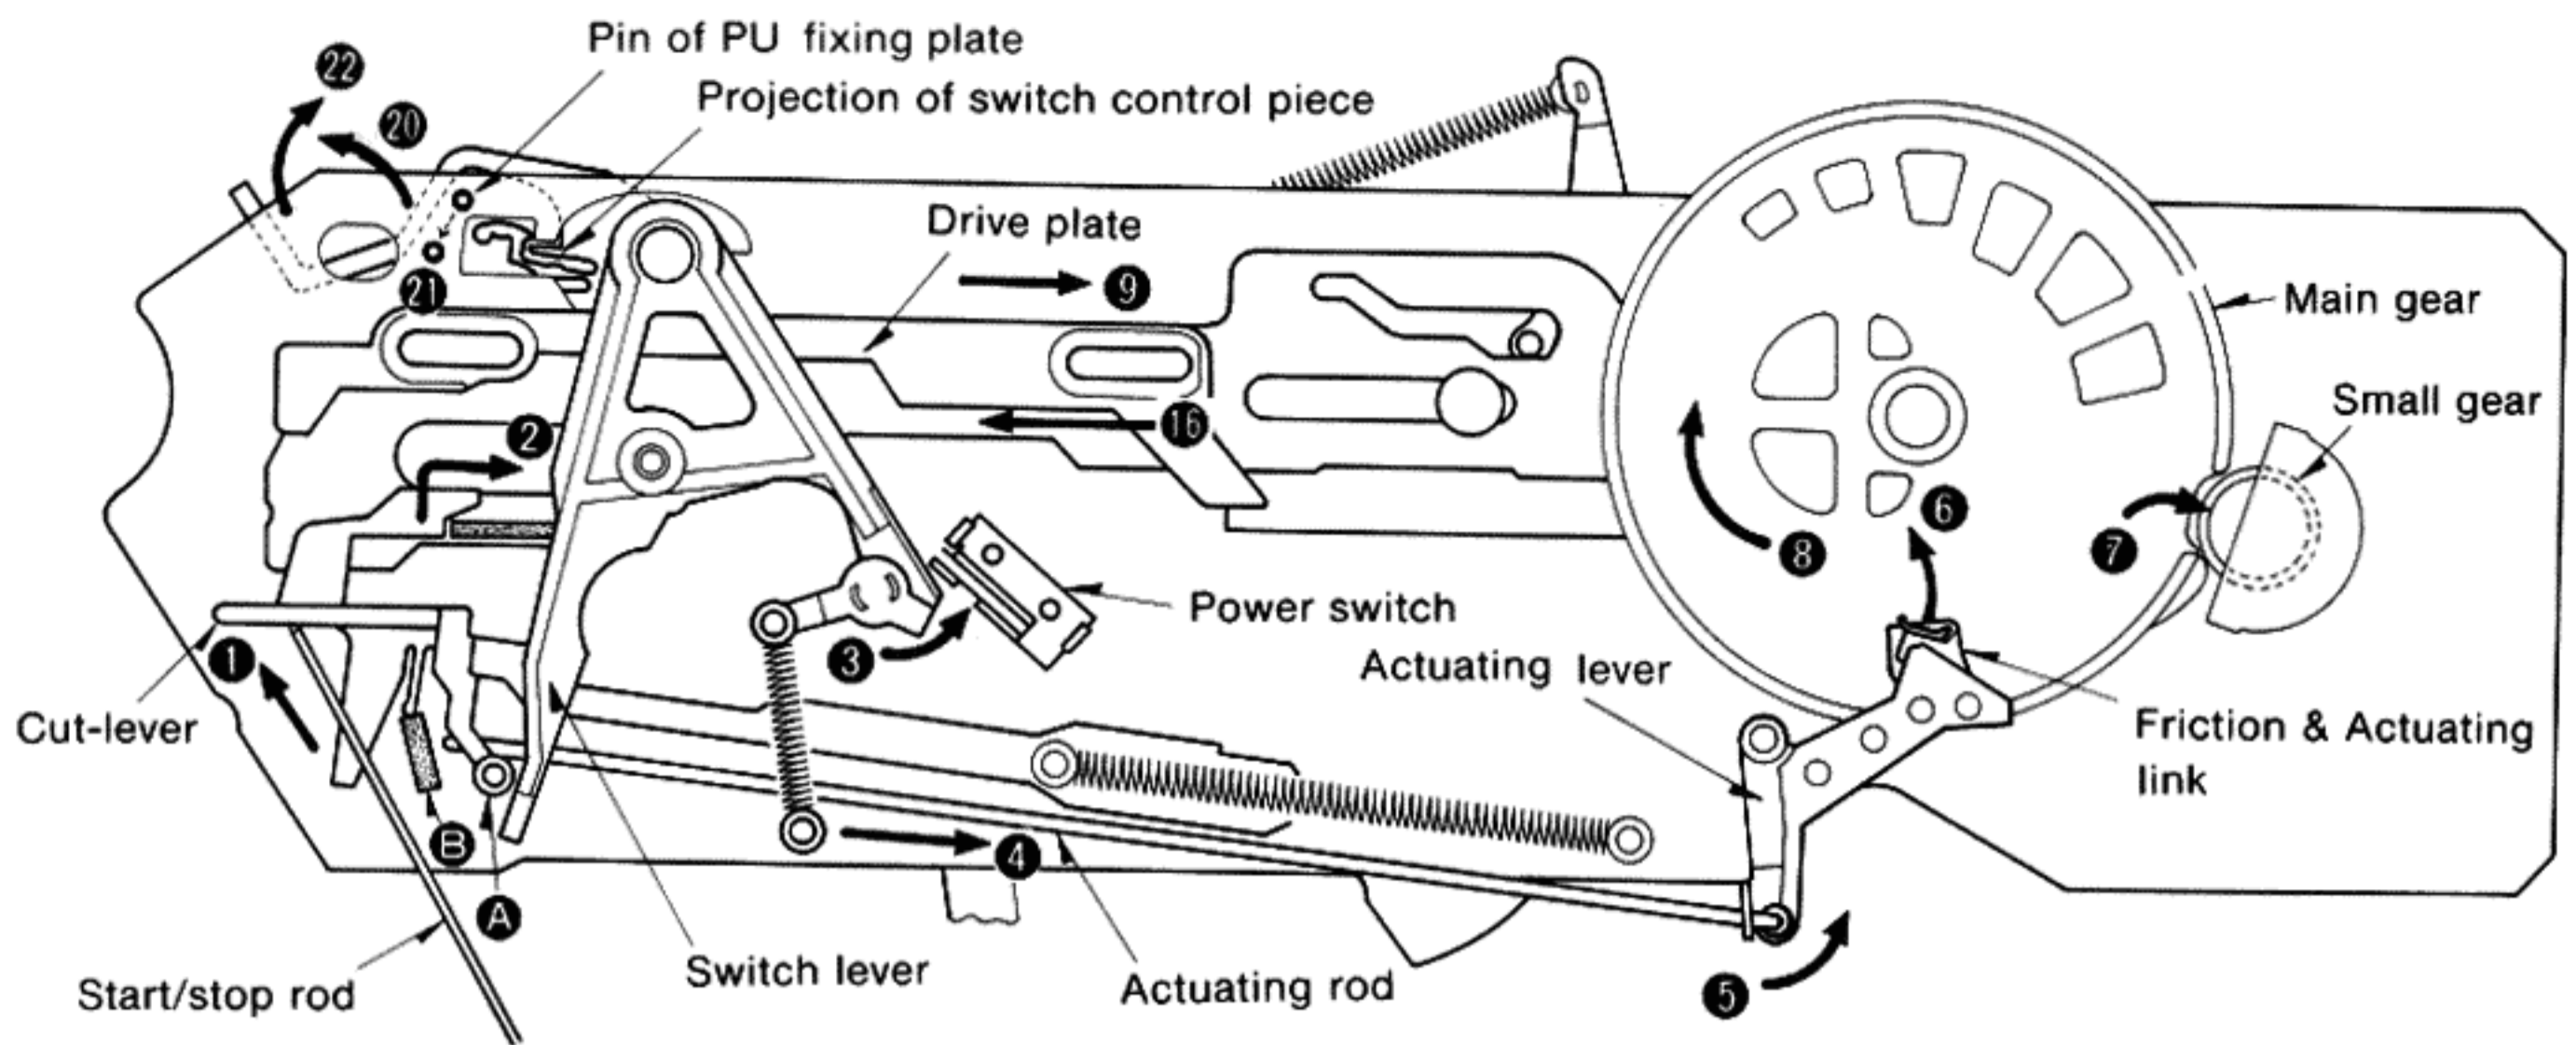
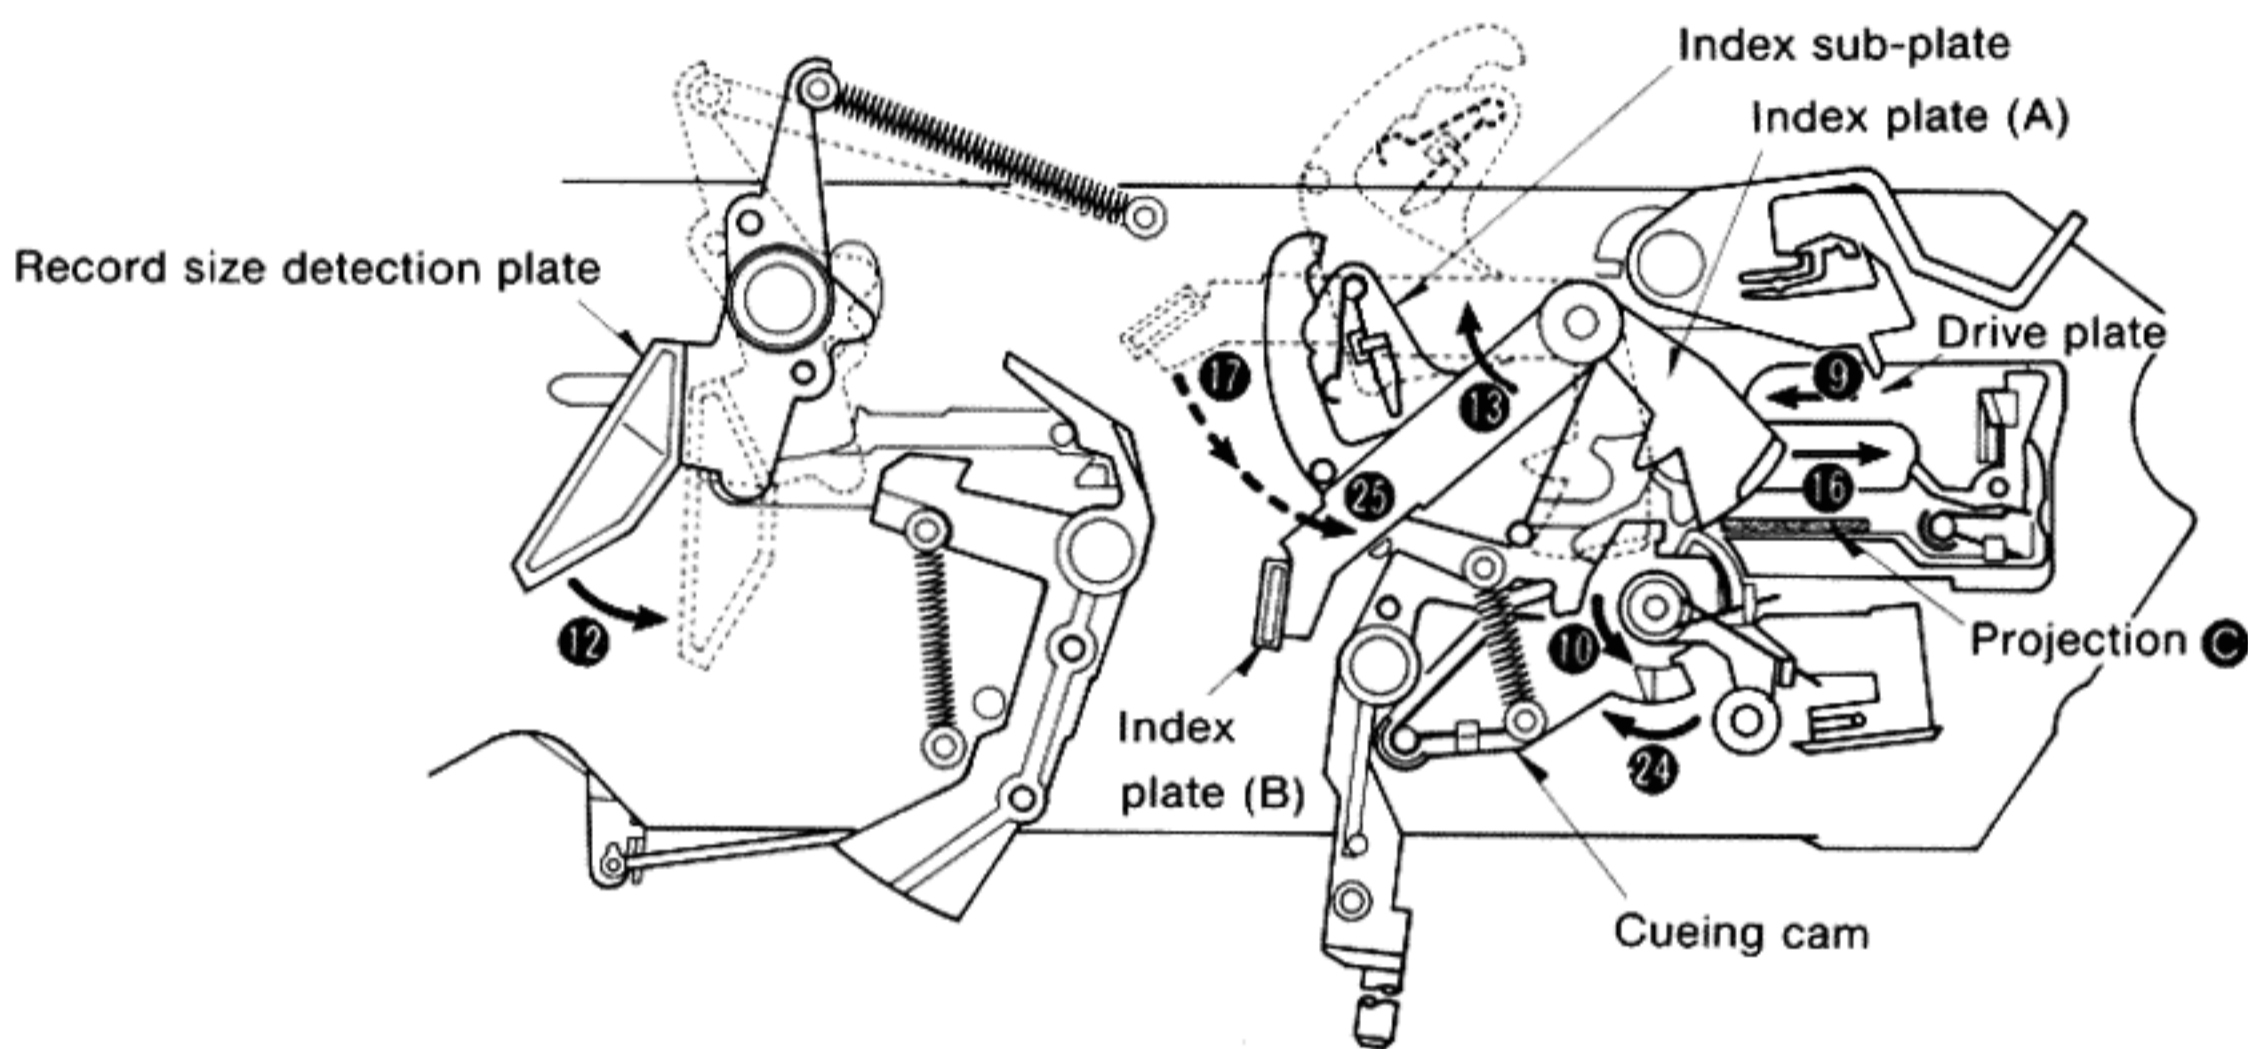

Fig. 1
Fig. 2
| 1. | Start (Press the start/stop button.) | • Start/stop rod pushes the cut-lever to disengage it from the drive plate. | 0° | Fig. 1 ①, ② |
| | (Drive circuit turns ON.) | • Portion ① of cut-lever pushes the switch lever. • Switch lever turns and presses the power switch contact. | 0° | Fig. 1 ③ |
| | (Main gear rotates.) | • Portion ② of cut-lever pushes the actuating rod. • Actuating lever turns and pushes the friction link and actuating link. • Small gear and main gear are engaged. | 0° | Fig. 1 ④ ~ ⑦ |
| 2. | Cueing up | • As the main gear rotates, the drive plate moves. • Projection ③ of the drive plate pushes the cueing cam. • Cueing cam rotates. | 6° ~ 33° | Fig. 1 ⑧, ⑨ Fig. 2 ⑩ |
| 4. | Record size detection plate setting | • Record size detection plate rotates when the drive plate moves. | 156° | Fig. 2 ⑫ |
| 5. | Index setting | • Index plates (A) and (B) and index sub-plate rotates when the drive plate moves. | 158°30' | Fig. 2 ⑬ |
| 7. | Positioning of index plate | <ul style="list-style-type: none"> ●When the main gear rotates, the drive plate starts moving in the direction of arrow ●16. ●Index plates (A), (B) and index sub-plate move back slightly as in the record size detection mode. | 255° ~ 278° 30' | Fig. 2 ●16, ●17 |
| 9. | Power switch lock | <ul style="list-style-type: none"> ●The PU fixing plate rotates and the PU fixing plate pin pushes the switch control piece in the direction of arrow ●19. ●When the PU fixing plate pin moves to point ●20, the switch control piece moves in the direction of arrow ●21, and then the projection of the switch control piece is held by the mechanism board. | 269° ~ 299° | Fig. 1 ●20 ~ ●22 |
| 11. | Cueing down | <ul style="list-style-type: none"> ●Projection ●24 of the drive plate is disengaged from the cueing cam, thereby shifting for cueing down. | 336° ~ 354° 40' | Fig. 2 ●24 |
| 12. | Index cancel | <ul style="list-style-type: none"> ●Also, when the drive board moves, the index plate returns to the initial condition. | 340° ~ 360° | Fig. 2 ●25 |
| 14. | End play | <ul style="list-style-type: none"> ●The tonearm moves to the center of the turntable. ●The PU fixing plate pushes the actuating rod. ●Operation continues as in No. 1 Start. | | Fig. 1 ●26 ~ ●27 |